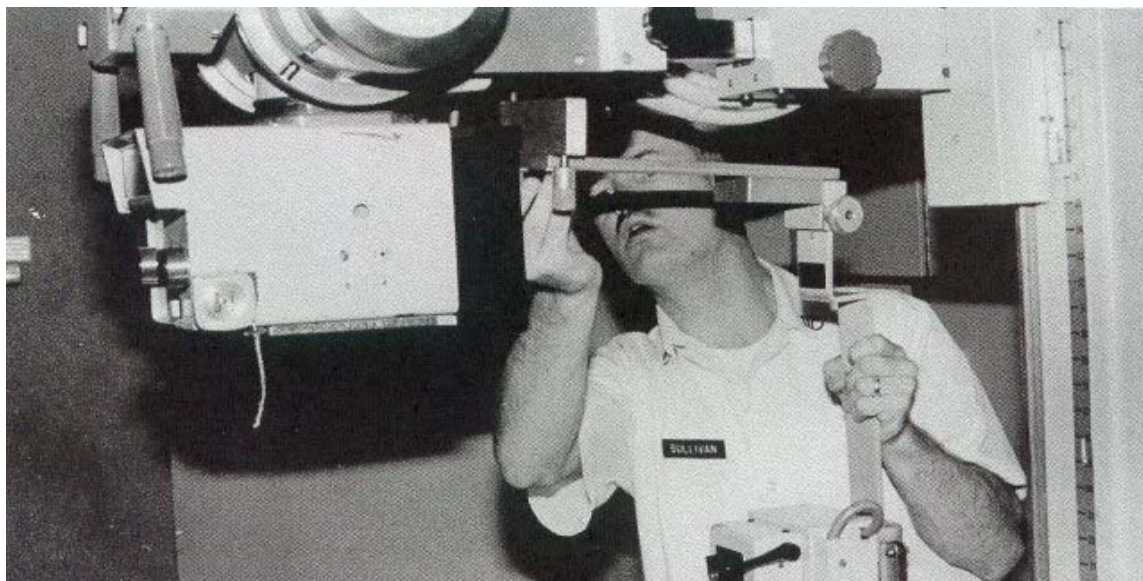

Figure 6-1. Technologist preparing machine to be tested.
- a. Prepare the equipment to be tested (see figure 6-1).